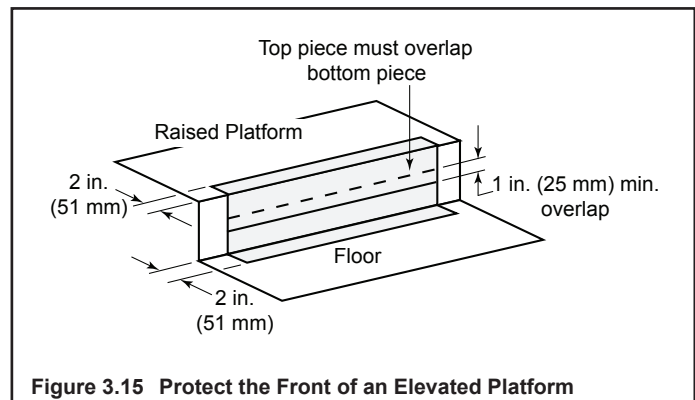

Figure 3.15 Protect the Front of an Elevated Platform
- Protect the front of a platform elevated above the hearth extension with metal strips (not included with fireplace) per Figure 3.15. See Section 7 for hearth extension instructions.